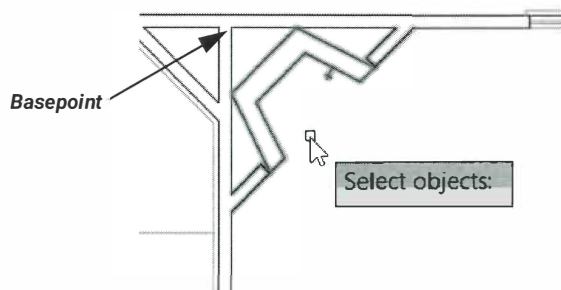

Figure 1-49
11. Make **Bighouse1-AM.dwg** the active window by clicking in it. In the *Home* tab>Clipboard panel, click  (Copy with Base Point). For the basepoint, select the corner of the walls behind the fireplace (in the primary bedroom). Select the fireplace (they might be separate objects) and the short diagonal walls that frame it, as shown in Figure 1-49. Press <Enter>.